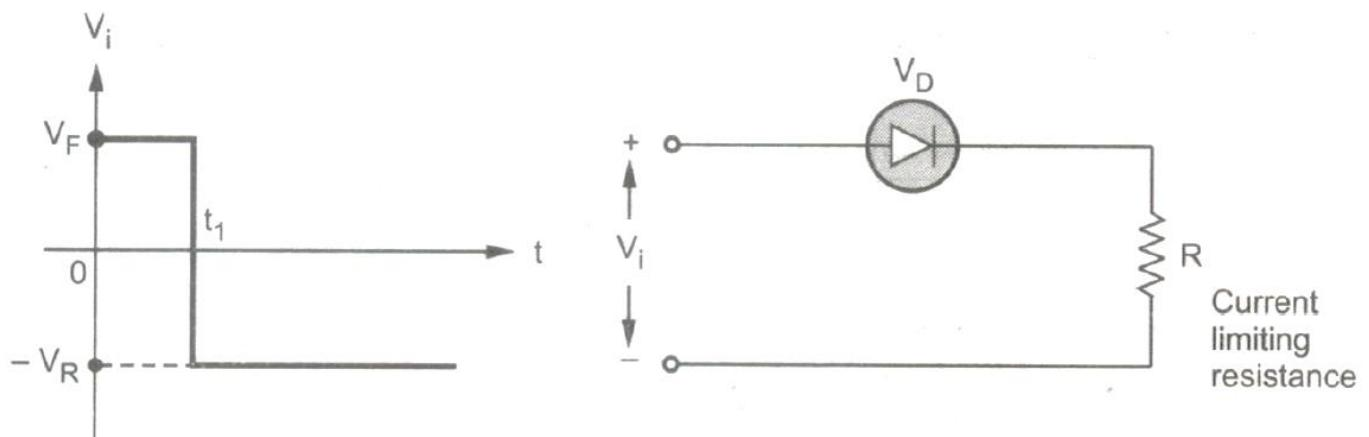

Fig. 1.20 Simple diode circuit
- To study the switching characteristics of diode, consider simple diode circuit and an input waveform as shown in the Fig. 1.20.